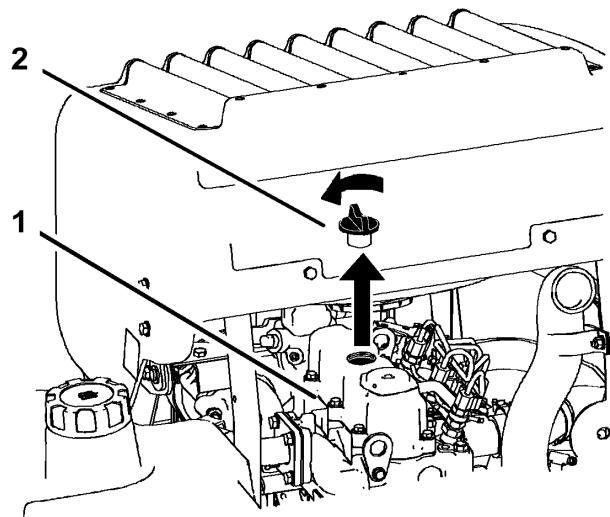

Figure 33
6. Remove the oil filler cap from the top of the engine (Figure 33). This will help the oil to drain.
2. Remove the oil filler cap and the dipstick (Figure 33).